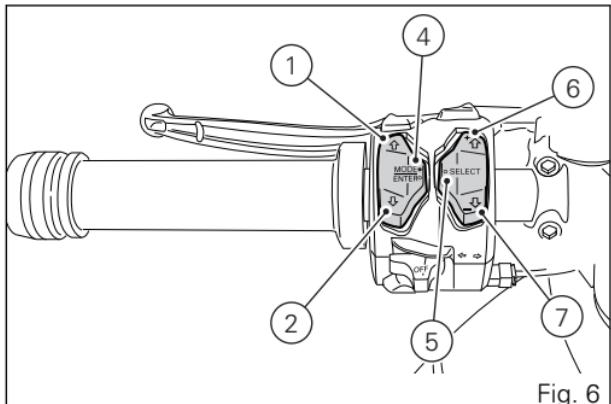

Fig. 6
6) UP "▲" QUICK SELECTION BUTTON (Fig. 6)
(Fig. 6)